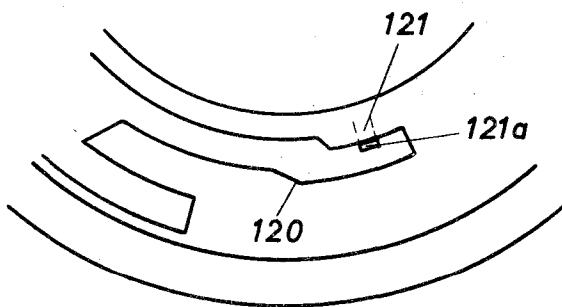

Fig. 20b
(2) The control cam 120 has been provided for the purpose of rendering the delayed-action device inoperative as soon as the shutter is set for bulb exposures. This control cam co-operates with a bent up arm 121a of the change-over bridge 121 (see Figs. 20b and 20c). With the synchro switch ring set a "V", when the setting ring is set at "B", the control cam 120 must influence the arm 121a in such a manner that the mechanism supported by the change-over bridge is separated from the remainder of the synchronizer and delayed-action device in the same way as is the case with the "X" and "M" settings.